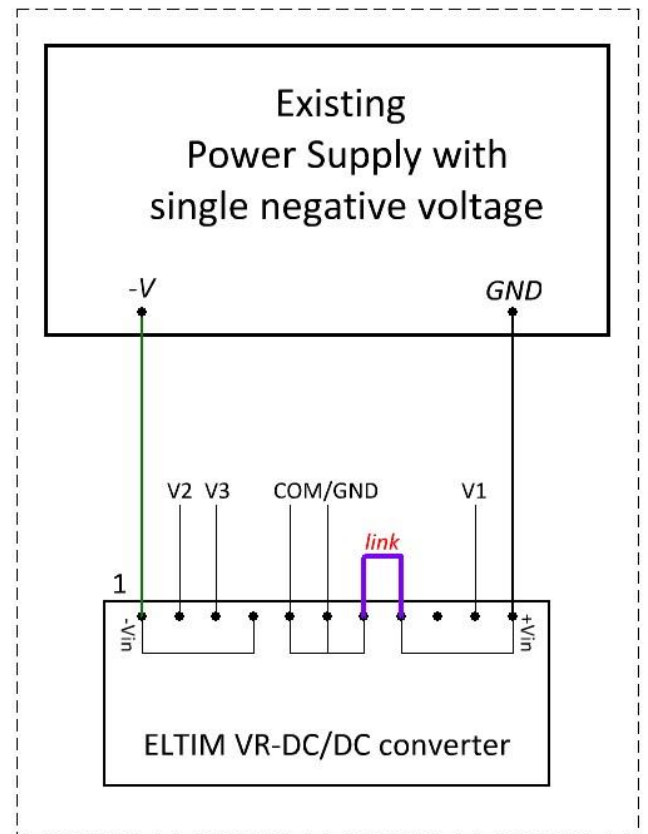

Fig 4: Single negative supply host, with common ground
- For single, negative voltage host supplies: link **+Vin** (=Host GND) with **COM** of our module (fig 4). This situation hardly occurs, but sometimes in very old installations or very special equipment.